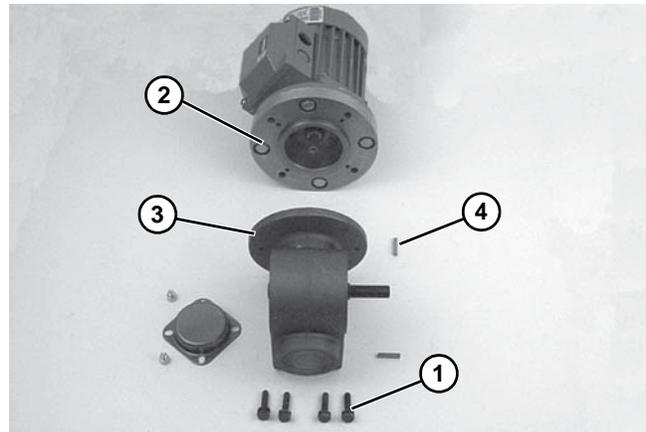

Figure 30
- Remove four bolts (Figure 30, item 1). Detach motor (Figure 30, item 2) from gear reducer (Figure 30, item 3). Retain motor output shaft key (Figure 30, item 4).